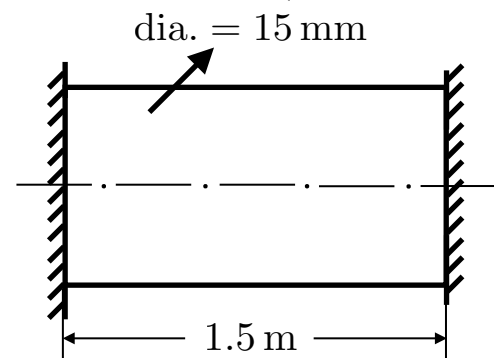

Figure 4: A Bar Subjected to an Increase in Temperature
6. Figure 4 shows a steel bar restrained by “walls” at both ends. Its temperature is raised from 27°C to 82°C . Assume the Young’s Modulus of steel to be $E = 230 \text{ GPa}$ and its linear coefficient of thermal expansion to be $\alpha = 11.7 \times 10^{-6} / ^\circ \text{C}$.